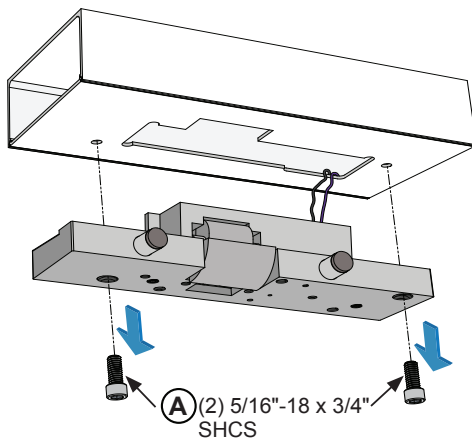
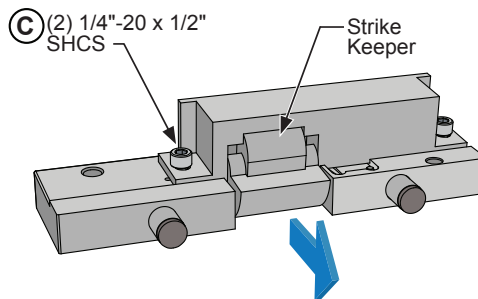

FIG. 10
FIG. 11
- A) Remove the **(A)** (2) 5/16"-18 x 3/4" SHCS.
- B) Remove the Strike from the header. **(Fig.10)**
- C) Loosen the **(C)** (2) 1/4"-20 x 1/2" SHCS.
- D) Apply pressure to the Strike Keeper to create a gap. **(Fig.11)**